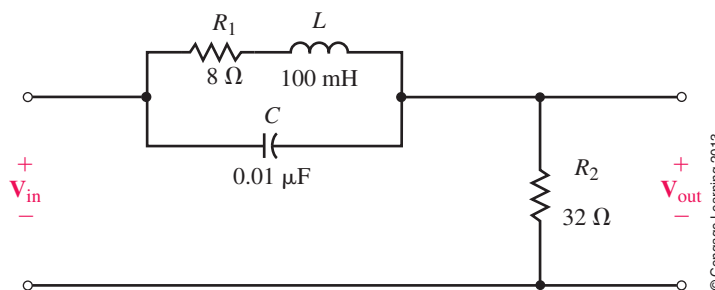

FIGURE 22–61
50. Repeat Problem 49 for the circuit of Figure 22–61.